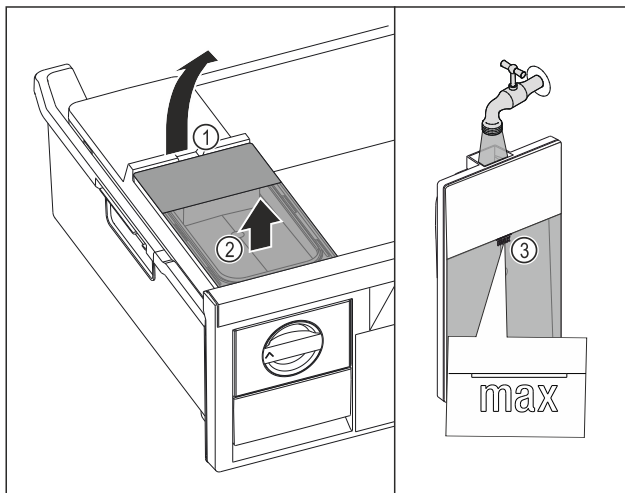

Fig. 164
- ▶ Lift the water tank at the recess Fig. 164 (1).
- ▶ Remove the water tank by lifting it upwards. Fig. 164 (2)
- ▶ Fill the water tank with drinking water up to the mark Fig. 164 (3).